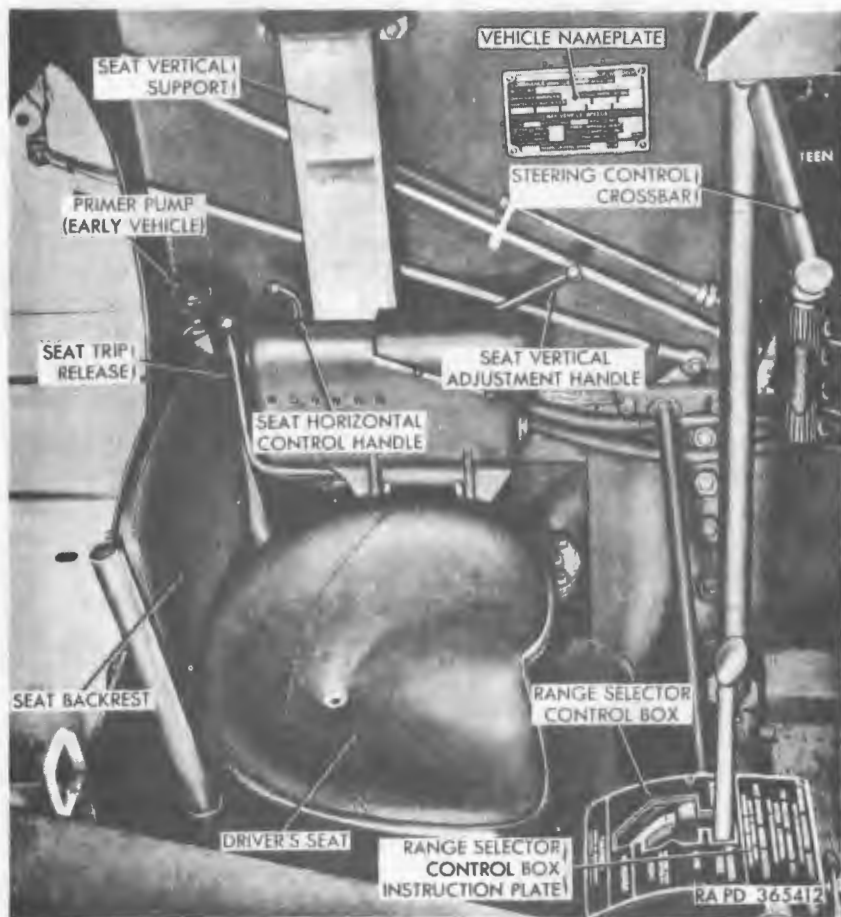

Figure 10. Driver's seat and controls.
(fig. 10)
a. The primer pump is a manually operated pump which forces fuel into the intake valve port of the cylinder assembly to facilitate starting. The accelerator pedal cannot be used for priming since the throttle pump discharges fuel ahead of the supercharger which, during cranking with the starter, does not turn at enough speed to introduce the fuel mixture into the cylinders. Vehicles with Ordnance serial Nos. 1 through 1662 have the primer pump mounted in a vertical position to the left rear of the driver's seat (fig. 10). Vehicles